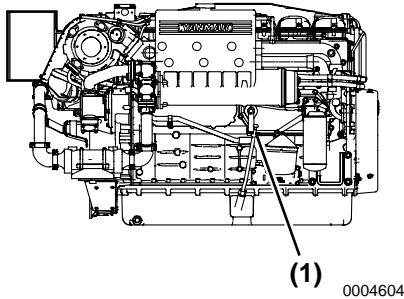
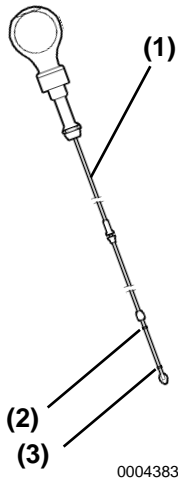

Figure 5
Figure 6
1. Remove dipstick (**Figure 6, (1)**) and (**Figure 5, (1)**) and wipe with clean cloth. *NOTICE: Prevent dirt and debris from contaminating the engine oil. Carefully clean the oil cap / dipstick and the surrounding area before you remove the cap.*
3. Remove dipstick. The oil level should be between upper (**Figure 6, (2)**) and lower (**Figure 6, (3)**) lines on the dipstick.
2. Fill with oil to the upper limit (**Figure 6, (2)**) on the dipstick (**Figure 6, (1)**). Insert the dipstick fully to check the level. *NOTICE: NEVER overfill. Overfilling may result in white exhaust smoke, engine overspeed or internal damage. ALWAYS keep the oil level between upper and lower lines on the oil cap / dipstick.*